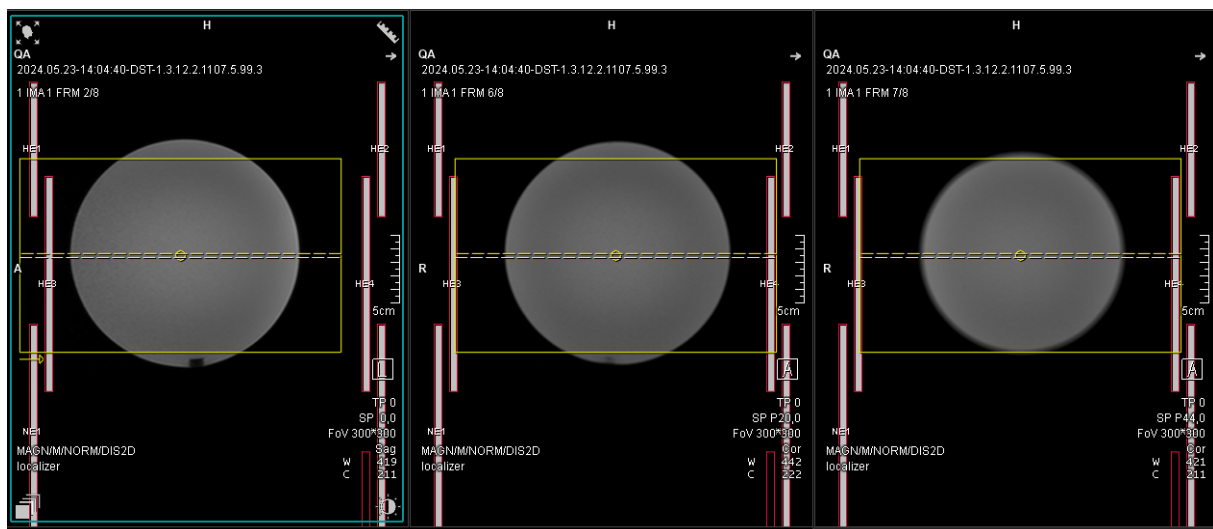

Figure 5 FOV positioning. The yellow box is the FOV.
Step 4: Open the SE sequence, adjust the FOV (yellow box) to make the phantom to be located at the center of the yellow box, as shown in Figure 5. Navigator to “Special Card” and select “ICE STD” (for NUMARIS/X) or “ICE 2D” (for NUMARIS/4) for ICE online reconstruction, as shown in FIGURE 6. Then, run the SE scan.
Step 5: Adjust the FOV (yellow box) to make the phantom to be located at the center of the yellow box, as shown in Figure 5. Navigator to “Special Card” and select “ICE STD” (for NUMARIS/X) or “ICE 2D” (for NUMARIS/4) for ICE online reconstruction, as shown in FIGURE 6. Then, run the first fMRI scan.